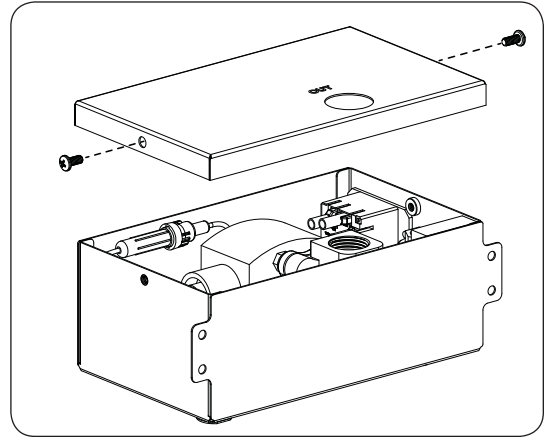

Fig. 45-1 Remove access panel of valve box
4. Use a Phillips screwdriver to remove the access panel of the valve box (see Fig. 45-1).